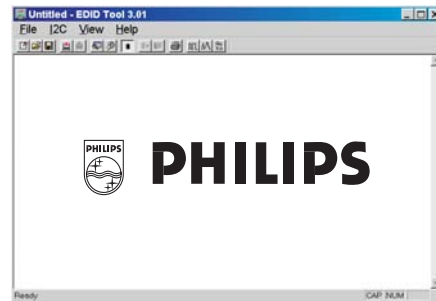

Fig. 6
4. Click **OK** button. The main menu appears (as shown in Fig. 6). **This is for initialize alignment box.**